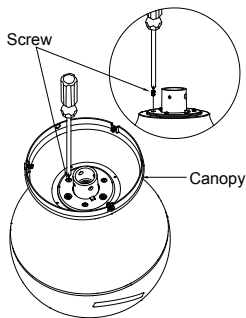

Fig. 6
Step 3. Remove the three motor coupling screws from ceiling fan and retain the canopy for later use. Reinstall the removed screws back to the ceiling fan. (Fig. 6)